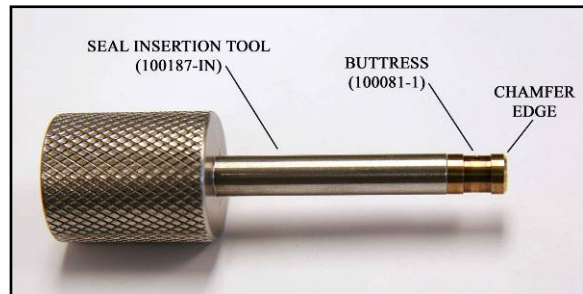

FIGURE 7
18. Slide the Buttress (100081-1) onto the Seal Insertion Tool (100187-IN). Ensure that the chamfer end of the Buttress is facing away from the tool. Using the Tool, Slide the Buttress into the Valve Body (100133-1) until it bottoms. **See Figure 7.**